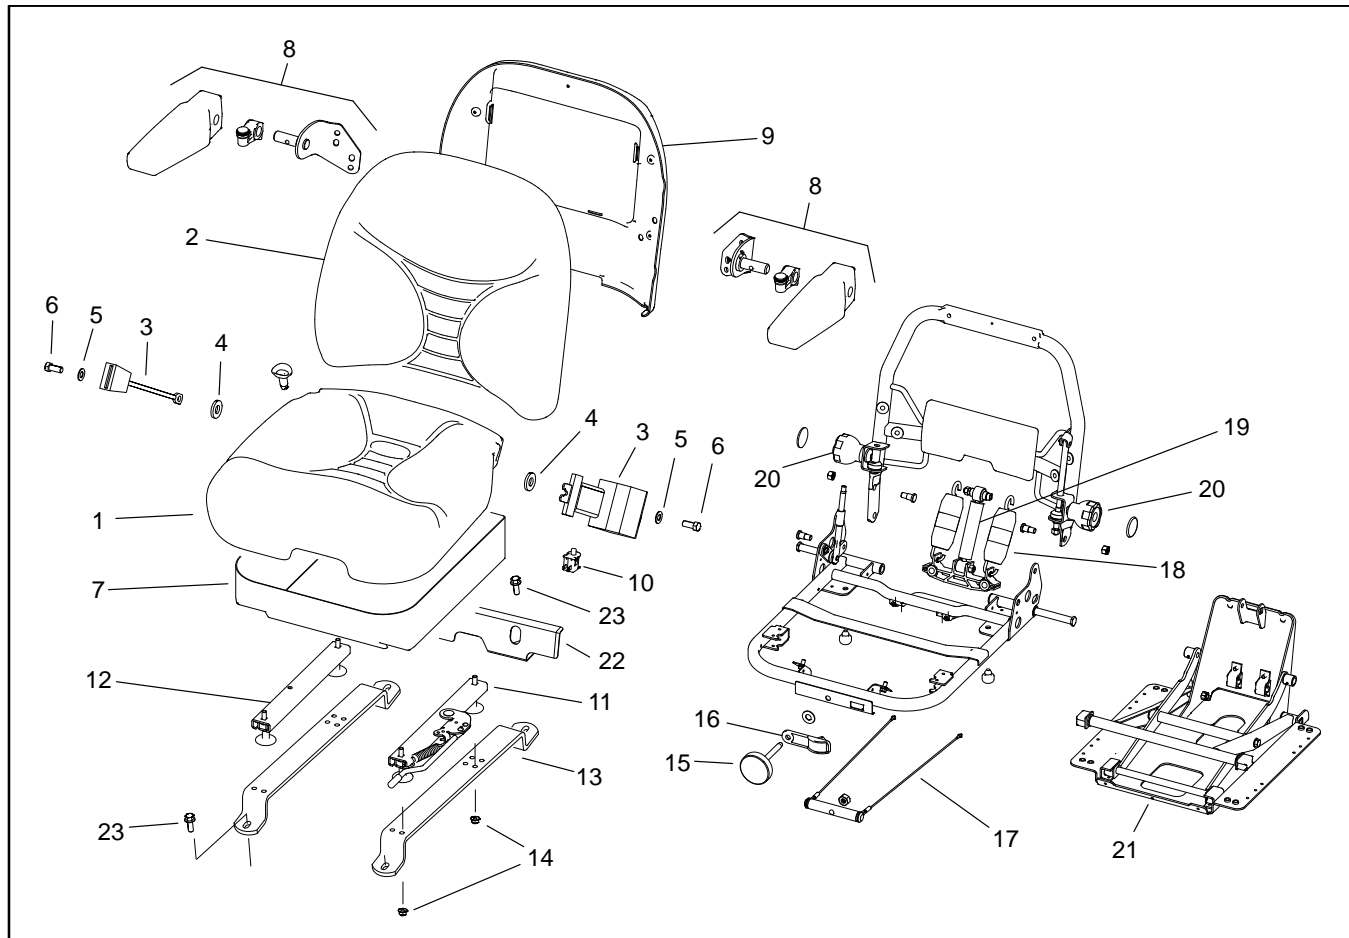

Figure 4
4. Remove seat parts as necessary to make repairs (Fig. 4).
1. Install any new seat parts (Fig. 4) as a guide.